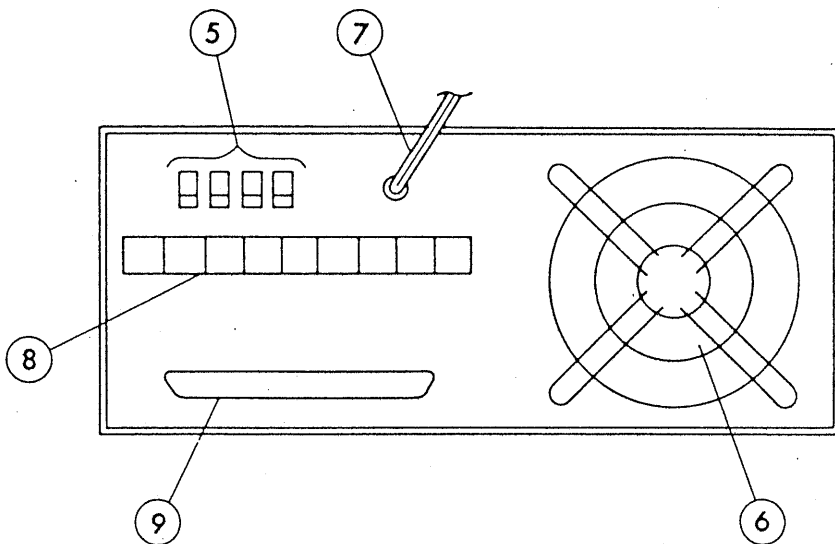

Figure 3-2. Rear panel
3.2 Description of Rear Panel (See Figure 3-2.)
⑤ ADDRESS switches: